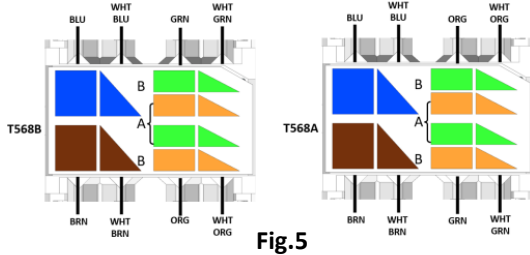

Fig.5
1. Wiring map (see Fig. 5) Label affixed on jack IDC housing.